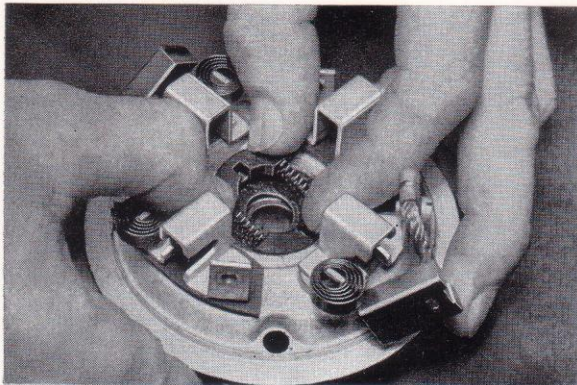

Fig. 97. Fitting the rotor brake
1. Fit the rotor brake in the rear bearing bracket, see Fig. 97, and the cable between the positive brushes.